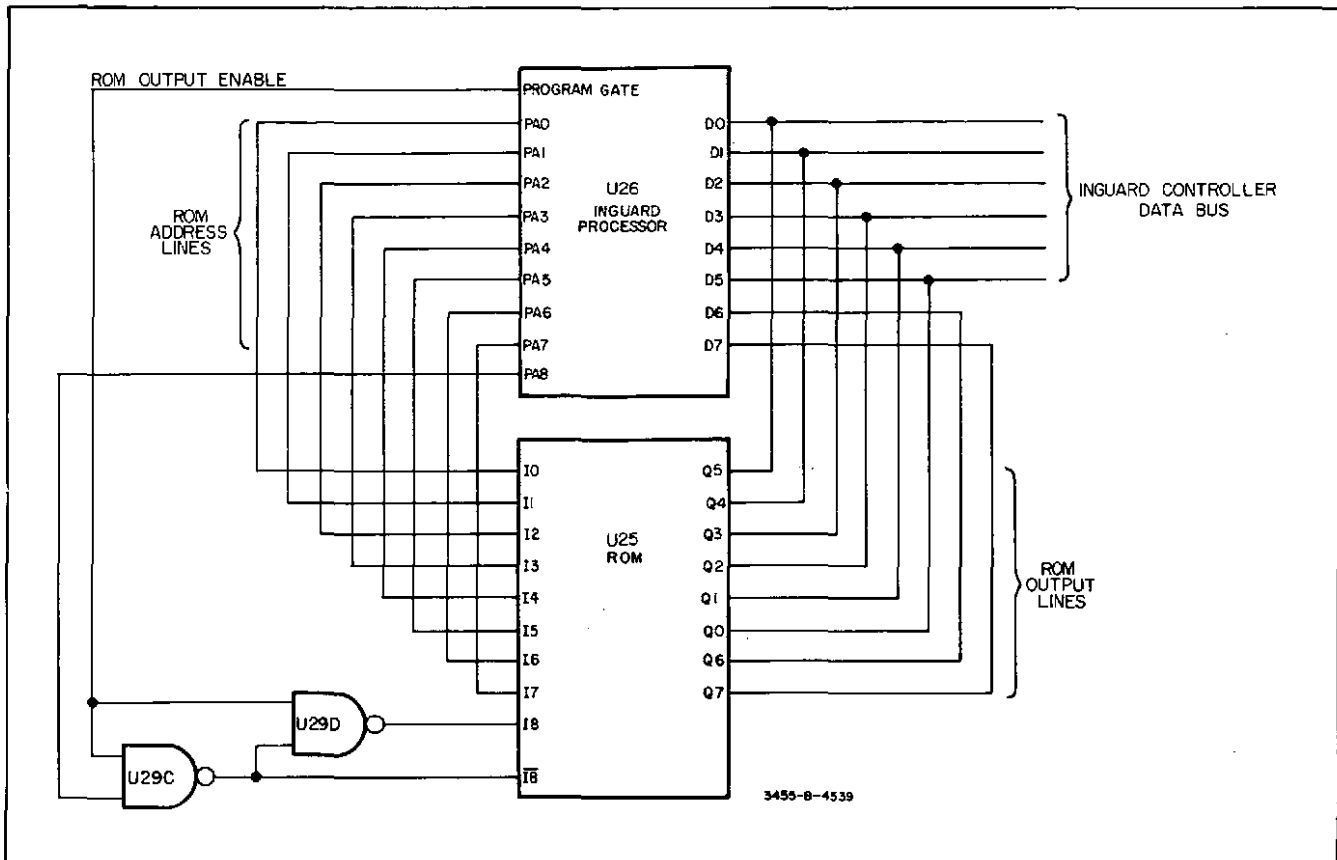

Figure 8-35. Simplified Program ROM Circuit.
**8-113. Program ROM.** Figure 8-35 shows a simplified schematic diagram of the program ROM circuitry used in the inguard controller. The program ROM contains the operation instructions for the inguard controller routine. There are 512 eight bit program storage locations contained in the ROM which are addressed by nine input lines (I0 through I8). The ROM output is connected to the processor data lines D0 through D7. The output of the ROM is enabled only when the signal level applied to  $\bar{I}8$  is the complement of the level applied to I8. This function is accomplished by gates U29C and U29D and occurs when the processor sets the "program gate" signal high.